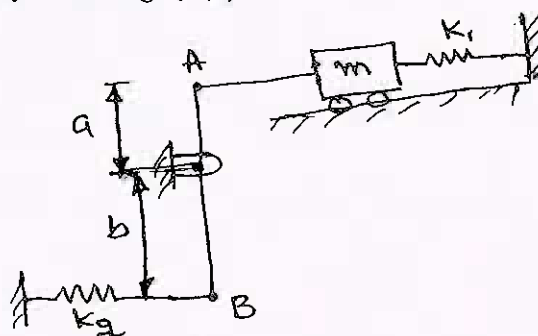

Fig.Q8(b)
b. Find the natural frequency of the Fig.Q8(b).